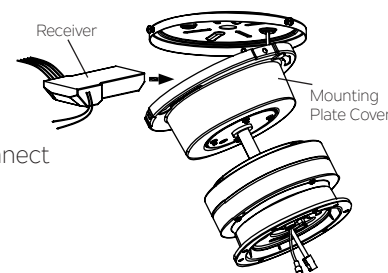

Fig. 8
Step 1. Place the receiver into the mounting plate cover and keep flat in opposition of ceiling. (Fig. 8)